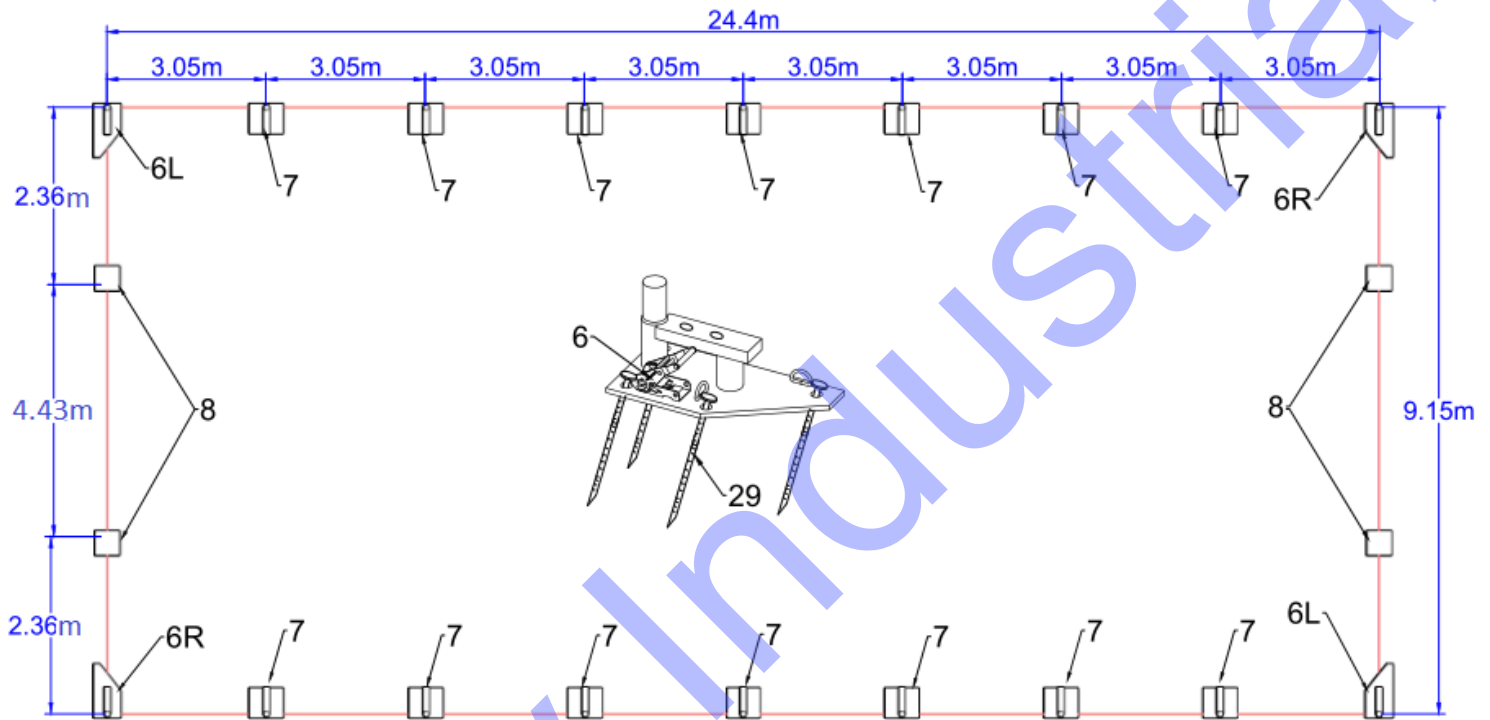

Figure 2: Foundation placement
Please refer to the diagram (Figure 2) to place the base plates:
2. As Figure 2 shows each Base plate is equipped with 4 pieces of Stake peg.